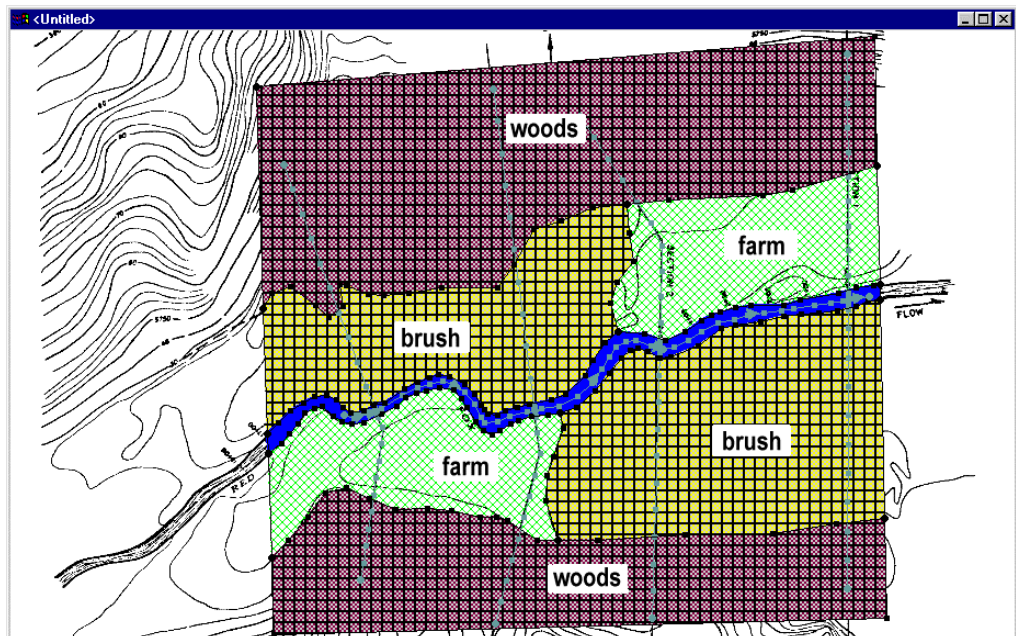

Figure 16-5 Material type boundaries.
6. Repeat this process for each of the material zones, assigning the materials as shown in Figure 16-5.